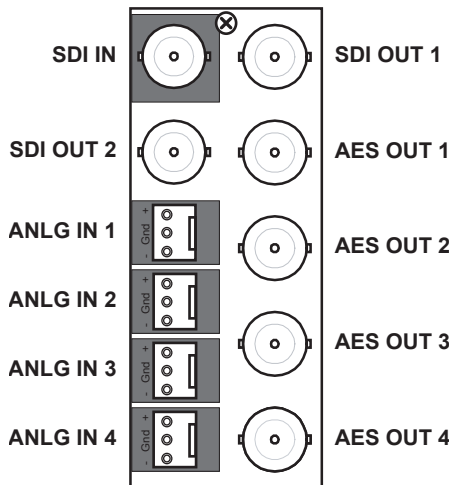

Figure 5.10 Cable Connections for the SFS-8622-AIC — Four Analog Inputs, Four AES Outputs
**Figure 5.10** illustrates the cabling designations for one SDI input, two SDI outputs, four analog balanced inputs, and four AES-3id unbalanced outputs. The **AES I/O Config** is set to **0 in, 4 out**.